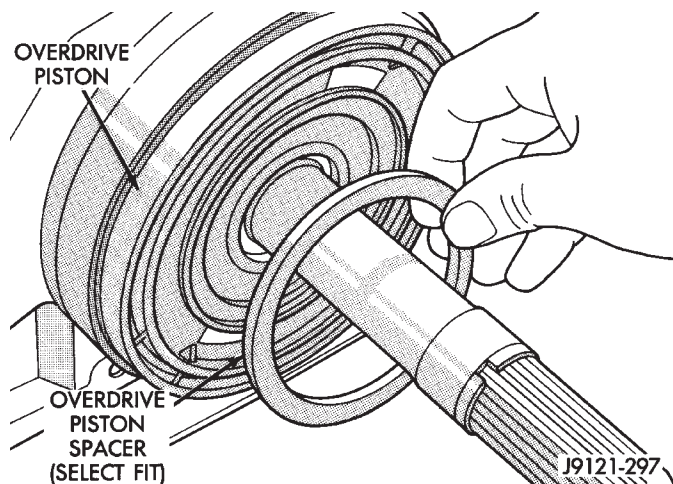

Fig. 248 Overdrive Piston Thrust Plate Removal/Installation
(1) Remove overdrive piston thrust plate (Fig. 248). Retain thrust plate. It is a select fit part and may possibly be reused.